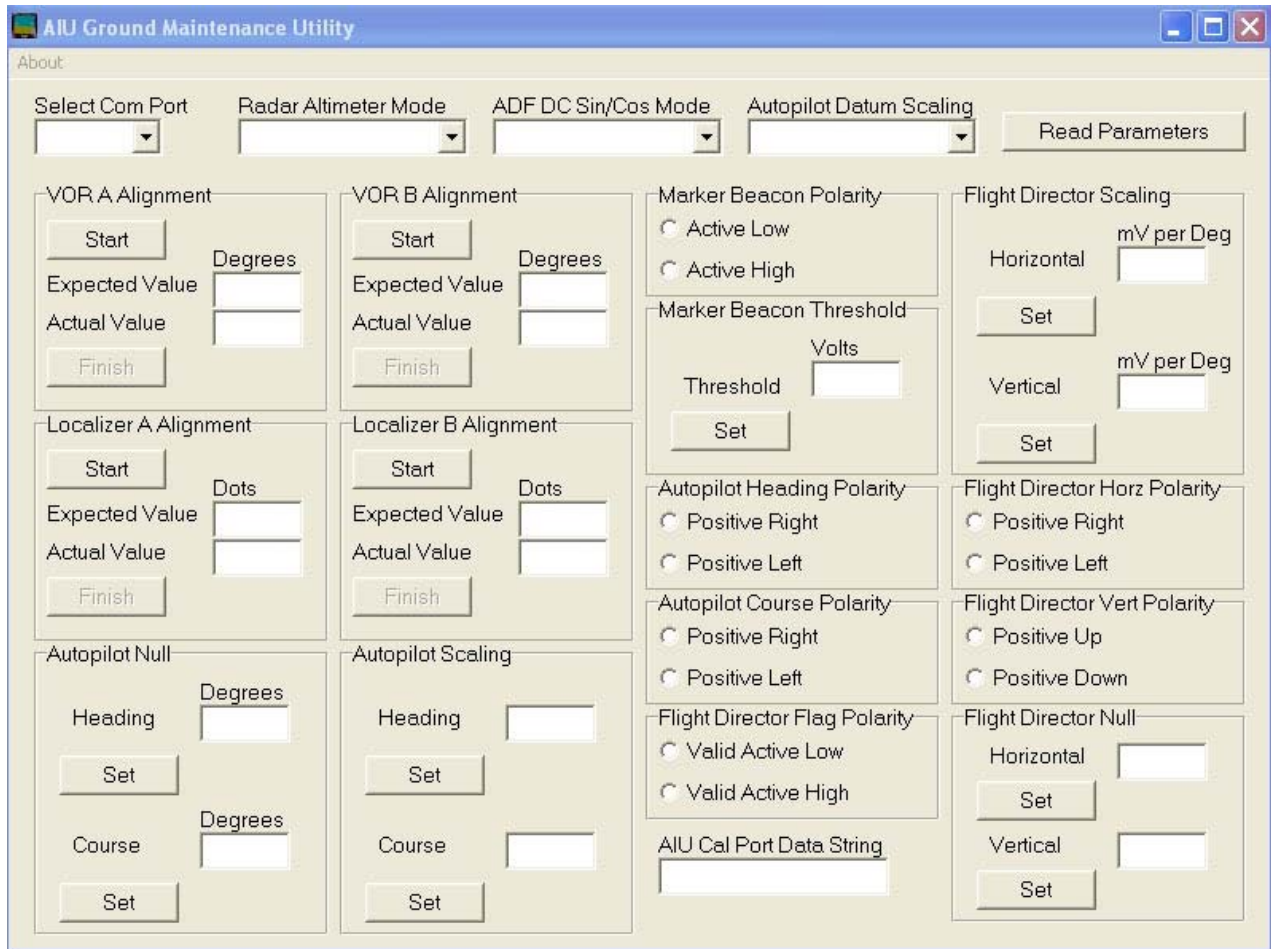

Figure 2. AIU Maintenance Program Window
5. Select the appropriate Com port and press the “Read Parameters” button on the AIU Maintenance program window and note all of the readings on the last page of this Service Bulletin (see Figure 2).